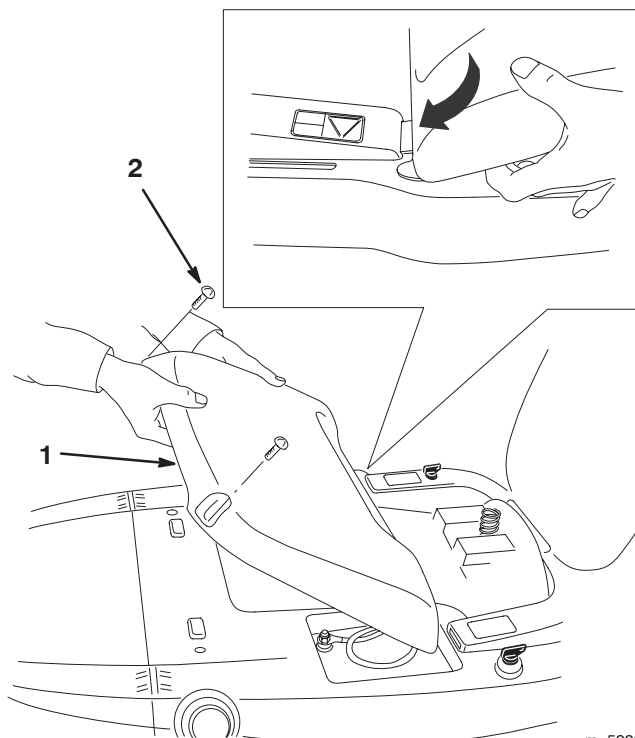

Figure 4
1. Slide the tabs on the engine cover into the slots on the body of the tractor (Fig. 4).
2. Secure the cover with 2 screws (M6 x 25 mm) (Fig. 4).